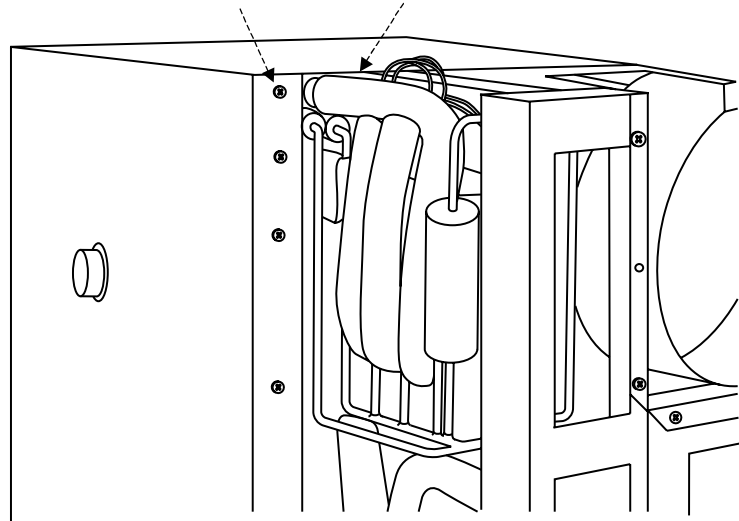

Fig. 5.40 Refrigerator unit
- When tightening screws A of Fig. 5.40, do not introduce drills of 1 cm or larger into the refrigerator unit. (Refrigerator unit insulation contains capillary tubes.)